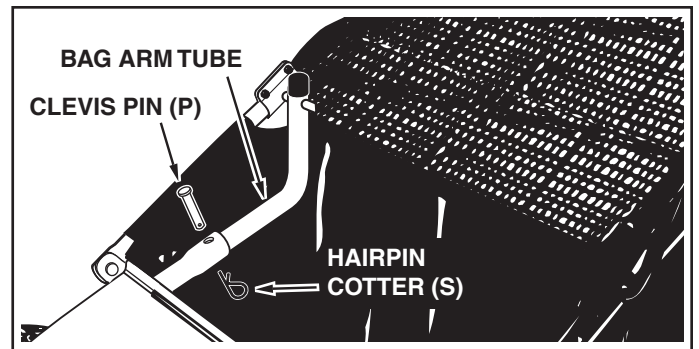

FIGURE 21
STEP 24: (SEE FIGURE 21)
- To attach the hopper bag to the sweeper, slide the ends of the bag arm tubes into the ends of the hitch tubes and secure with two clevis pins (P) and hairpin cotters (S).